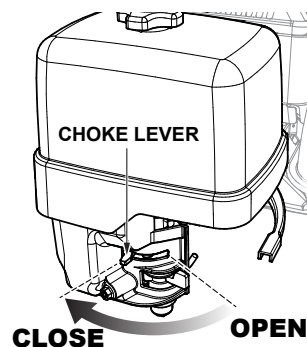

Figure 9. Engine Choke Lever (Closed)
4. If starting a cold engine, place the engine choke lever in the **CLOSED** position (Figure 9).